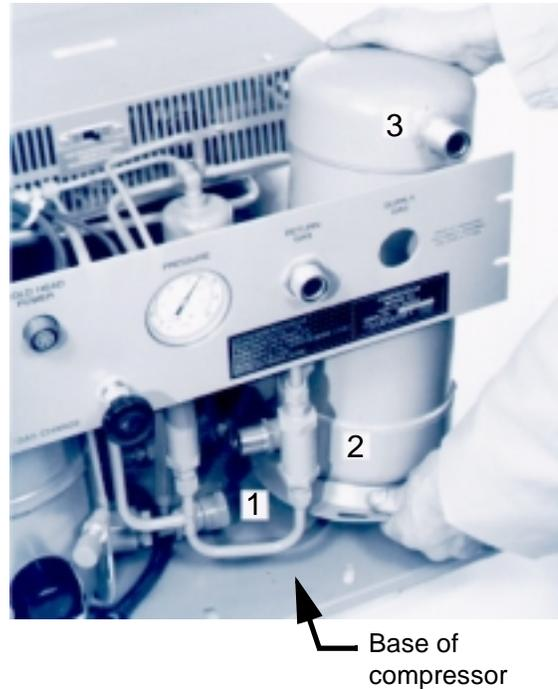

Figure 2: Adsorber Removal from the SC/SCW/8200 Compressor
5. Remove the adsorber from the compressor as shown in Figure 2 and by performing the following steps: